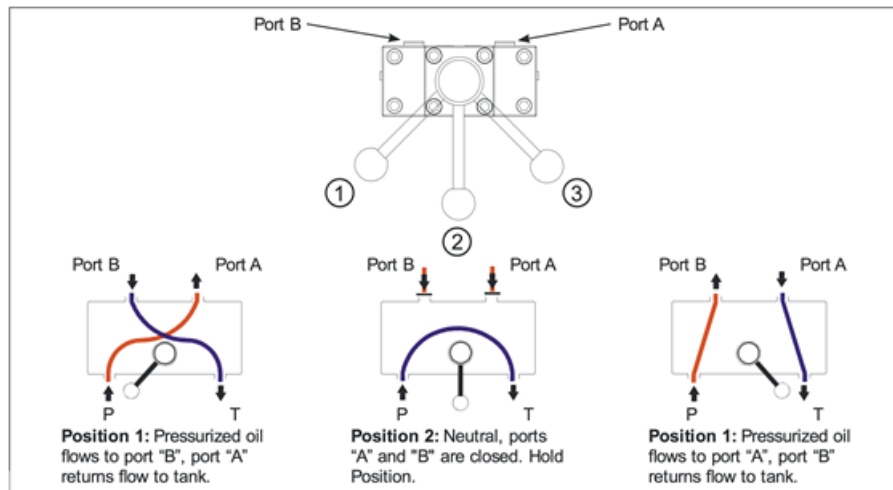

Figure 1 – Flow path of the valve positions and operations
5.3 Shift the valve to desired position. There are three positions available, refer to Figure 1 below for the flow path.